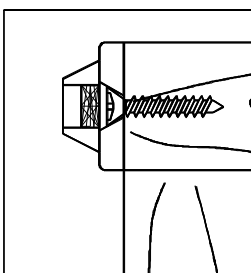

Figure 1
2. Screw the threaded rods (d) to the insert nut found at the bottom of the left side panel (C). Align the pre-drilled holes on the edge of bottom panel (B) with the threaded rods (d), assemble using the half moon pressure plates (e), flat washers (g), spring washers (f) and nuts (h) and secure using the wrench. Attach the top panel (A) and fix shelf (E) to the left side panel using the bolts (i), secure through the pre-drilled holes on the cleat and tighten with the Allen key. (Fig. 1)
Use a 3/32" drill bit to drill pilot holes into the furniture item at the "screw marks". Use the TWO Short screws to secure the furniture-side bracket. This bracket can be positioned either vertically or horizontal as necessary (See Figure 1).